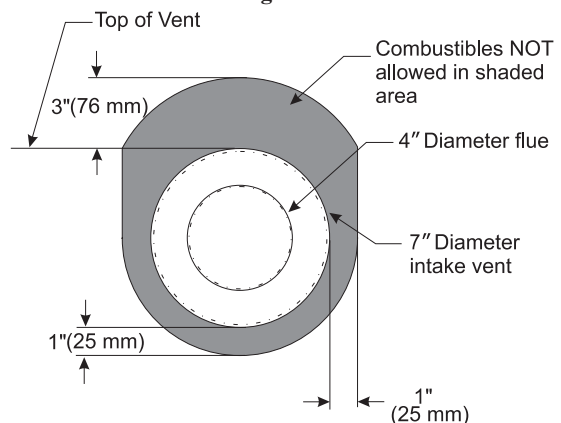

Figure 53
5. Install the Wall Firestop/Thimble assembly as required through the wall. Refer to the venting charts in the fireplace manual to determine the proper height and size of the vent opening. The minimum opening should be 9" wide by 11" high. The minimum combustible clearance from the horizontal vent is 1" from sides and bottom, and 3" above the vent pipe. See Figure 53.